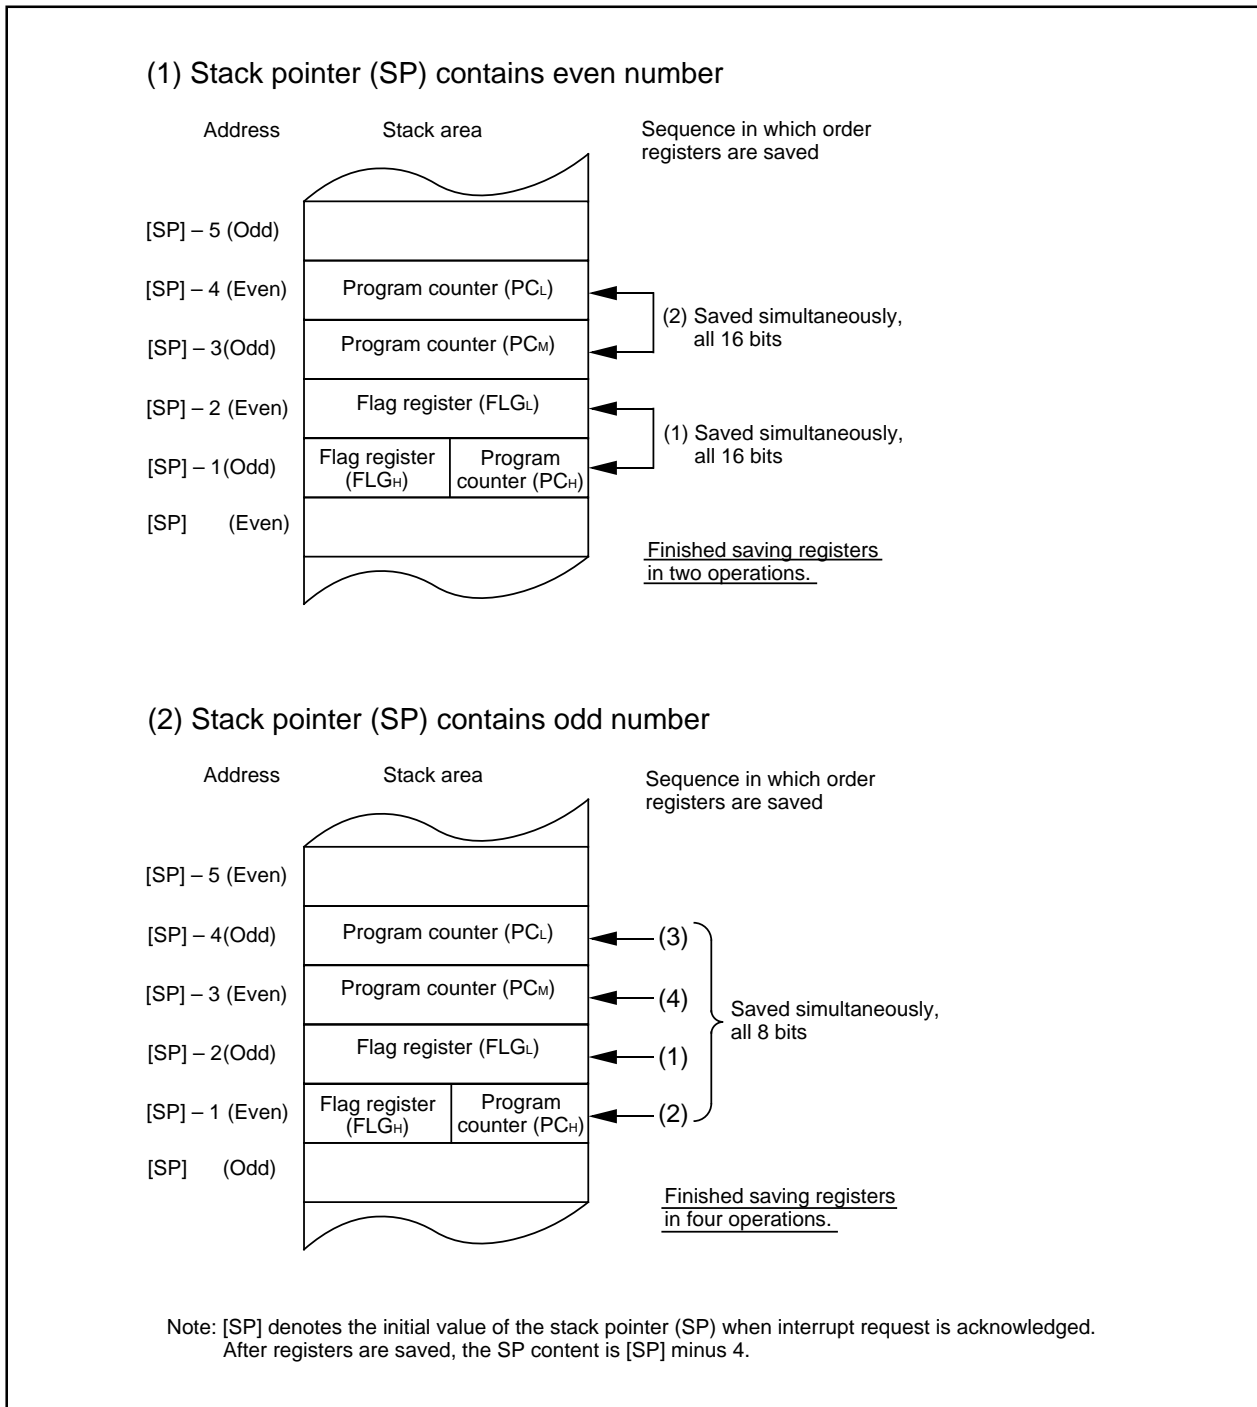

Figure 1.10.7. Operation of saving registers
The operation of saving registers carried out in the interrupt sequence is dependent on whether the content of the stack pointer, at the time of acceptance of an interrupt request, is even or odd. If the content of the stack pointer (Note) is even, the content of the flag register (FLG) and the content of the program counter (PC) are saved, 16 bits at a time. If odd, their contents are saved in two steps, 8 bits at a time. Figure 1.10.7 shows the operation of the saving registers.